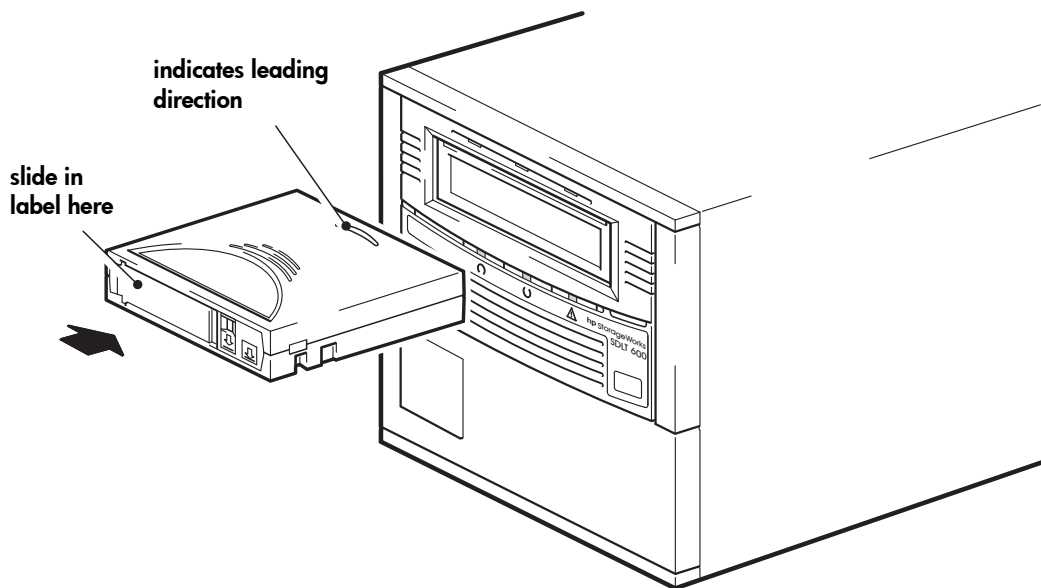

Figure 7a: loading a cartridge
- 1 Insert the cartridge into the slot in front of the drive with the markings uppermost and facing the drive door. Apply gentle pressure until the drive takes the cartridge and loads it. (See Figure 7a.)